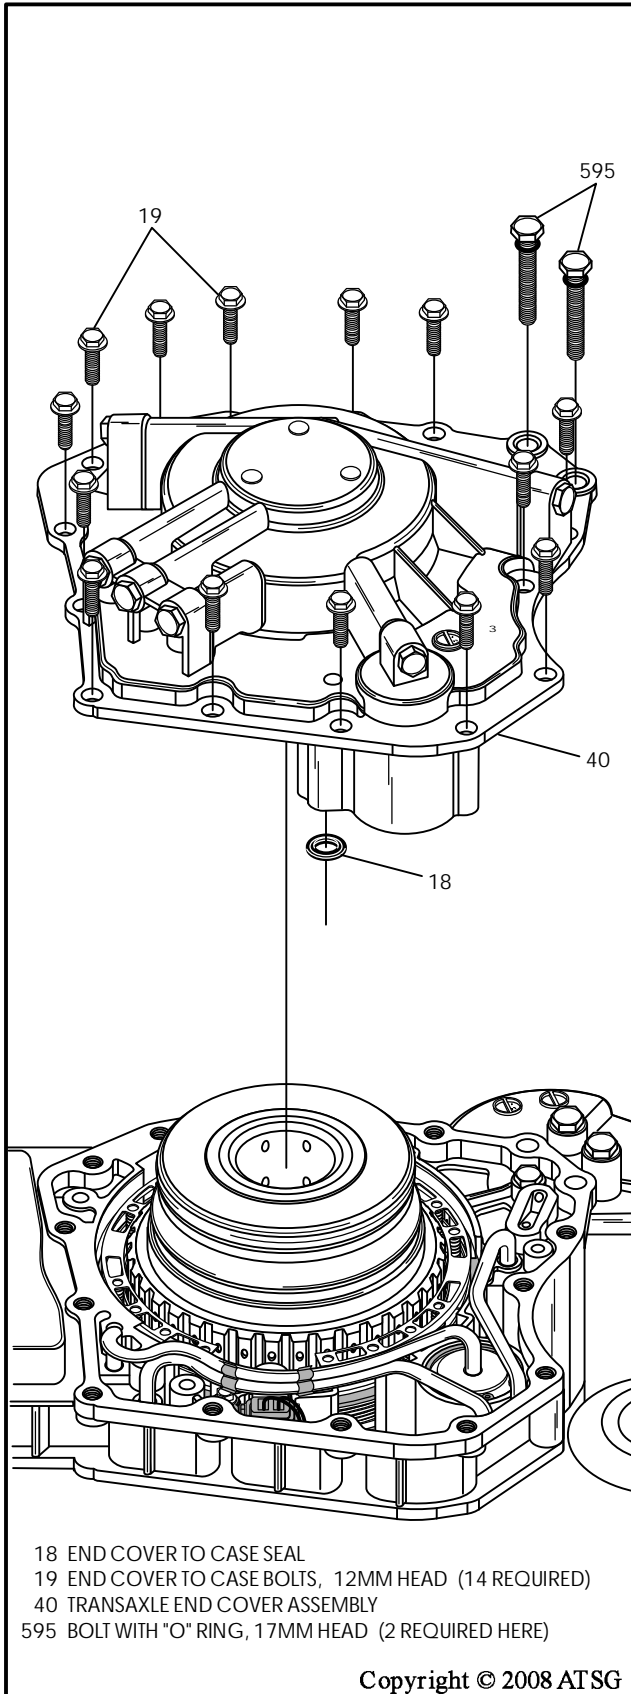

Figure 211
48. Install the end cover to case seal (18) into the pocket in the case, as shown in Figure 211, and retain with small amount of Trans-Jel®.
50. Install two new "O" rings on the bolts (595) with the 17mm head, as shown in Figure 211.
52. Install the completed end cover assembly onto case, as shown in Figure 211.